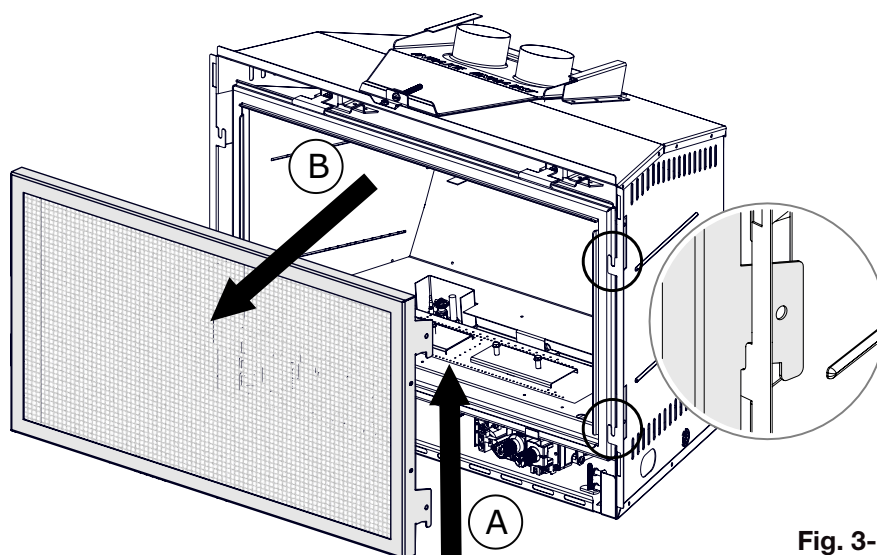

Fig. 3-1
1. Before the glass door can be removed, the safety barrier must be removed. Lift the safety barrier from the 4 tabs, tilt the top forward, and remove from the appliance (**Fig. 3-1**).